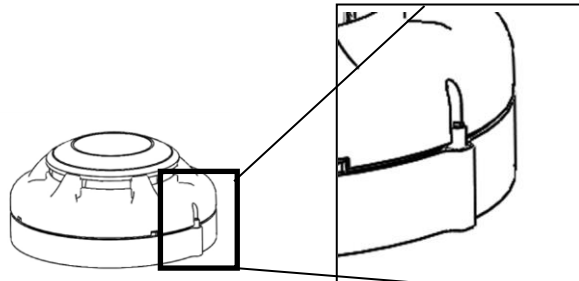

Figure 20: Position of the locking screw to lock the detector
3. Install the detector into the mounting base, making sure the wiring does not obstruct mounting of the detector head. Push the detector into the mounting base while turning it clockwise until the detector locks into place. Use a small hexagonal wrench to set the tamper resist feature (if required), see Figure 20.
The EVA-UB series, EVA-S6 Base, and EVA-STB series of smoke/heat detector mounting bases have a tamper-resist feature that works in conjunction with the detectors. When this feature is enabled, the detectors cannot be removed from the base without the use of a small hexagonal wrench. To avoid unauthorized removal of the detector, turn the locking screw in the mounting base counterclockwise until the screw extends out about 4 mm (3/16 in.) from the rim of the base, as shown in Figure 20.